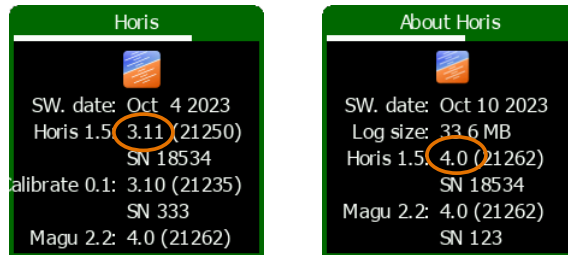

Figure 20: Version 3.xx (left) and version 4.xx (right).
3. Select **About** from the menu. Figure 20 illustrates two options.